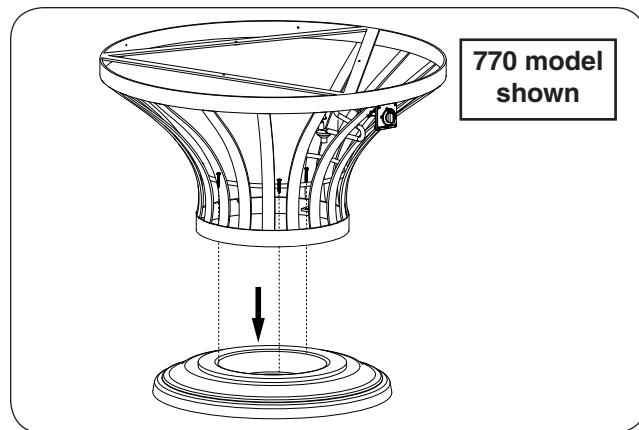

Fig. 28-1 Place base and fasten
1. **CAREFULLY** place the base bottom and base in an appropriate location (see Fig. 28-1, and refer back to the LOCATION section if needed).
2. Use a Phillips screwdriver and the supplied concrete screws (3) to fasten the base bottom to the base as shown in Fig. 28-1.